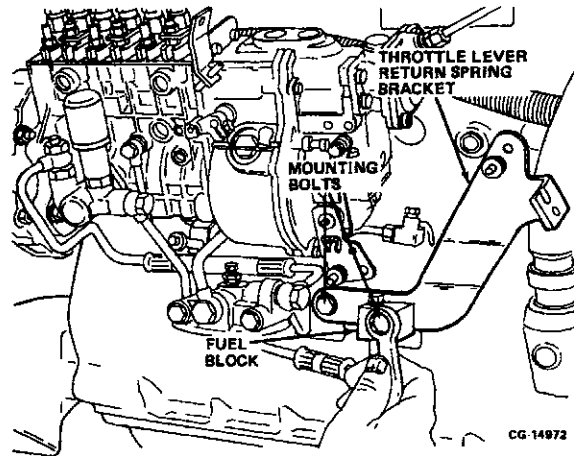

Figure 11.88. Install Throttle Lever Return Spring Bracket
13. Mount the throttle lever return spring bracket to the crankcase using the two mounting bolts and washers. Refer to Figures 11.88.